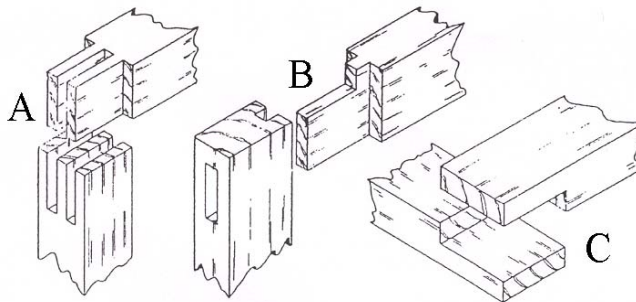

Fig. 8
22. Name the joints shown in figure 8.